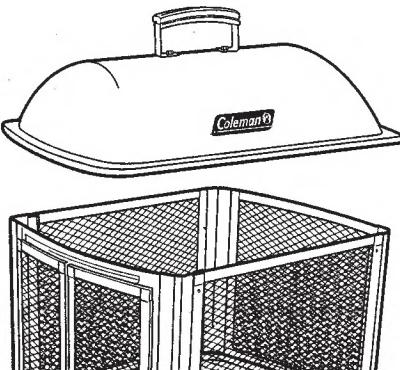

Figure 7
6. Place lid on top of screen. (**Figure 7**).